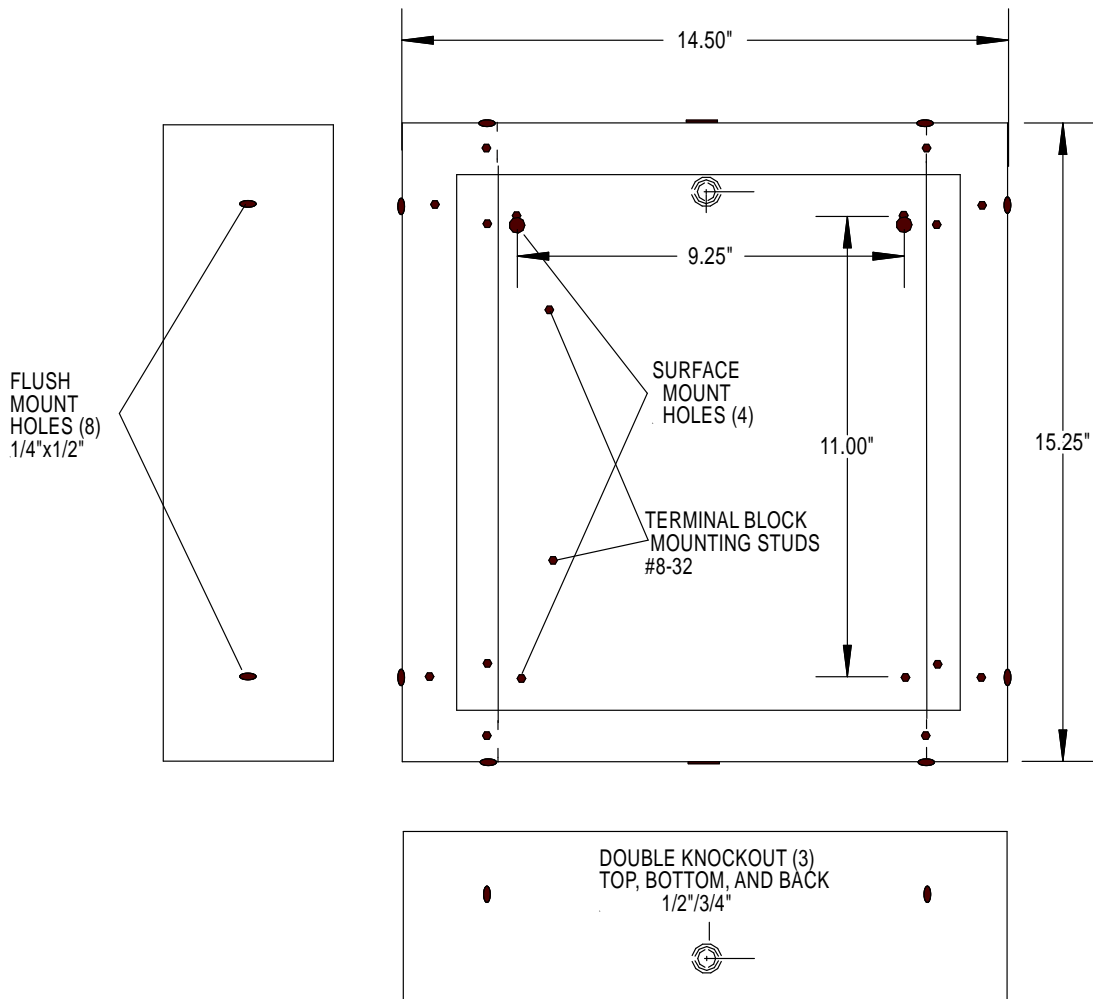

Figure 3. Mounting Holes for Mounting the Backbox, Flush and Surface
2. Mount the backbox assembly. See Figure 3 for mounting holes. Insure that the orientation label inside the backbox is pointing “UP” and that the studs for mounting the terminal block are on the left side.